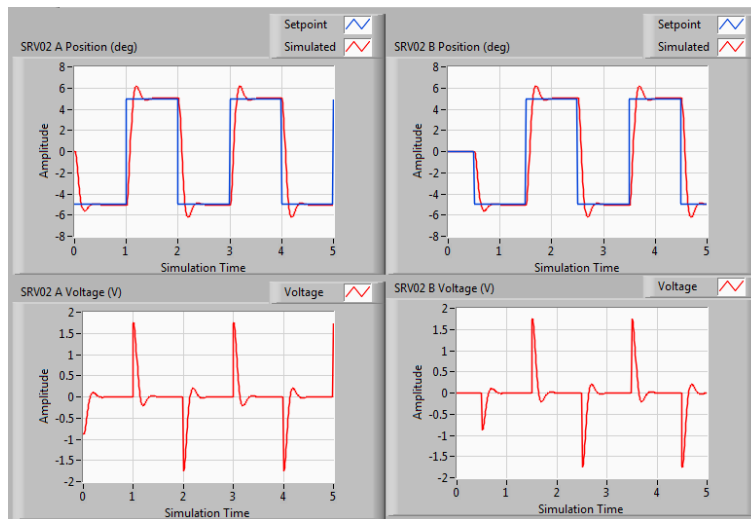

Figure 3.5: Simulated closed-loop response in joint space.
3. Run the simulation (i.e., click on the *Run* button). By default, the simulation runs for 5 seconds. The scopes should be displaying responses similar to Figure 3.5. Note that in the *SRV02 A Position* (deg) scopes, the blue trace is the setpoint position while the red trace is the simulated position (generated by the transfer function model).